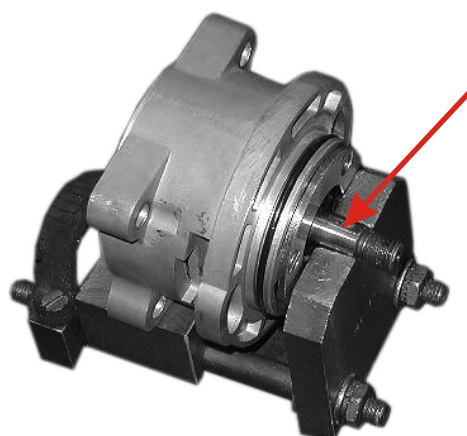

Fig. 113.
- Press the key in the drive shaft (Fig. 113)